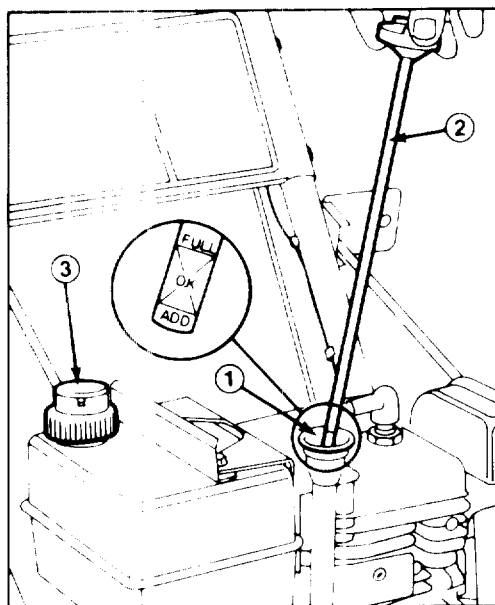

Figure 13
3. Remove dipstick from crankcase (Fig. 13).
1. Clean area around the fuel tank cap (Fig. 13). Remove cap from fuel tank. Using unleaded, regular gasoline, fill tank to within 1/4" to 1/2" (6 to 13 mm) from the top of the tank, not into the filler neck. This space is for expansion of fuel. Do not fill tank full. Reinstall fuel tank cap.